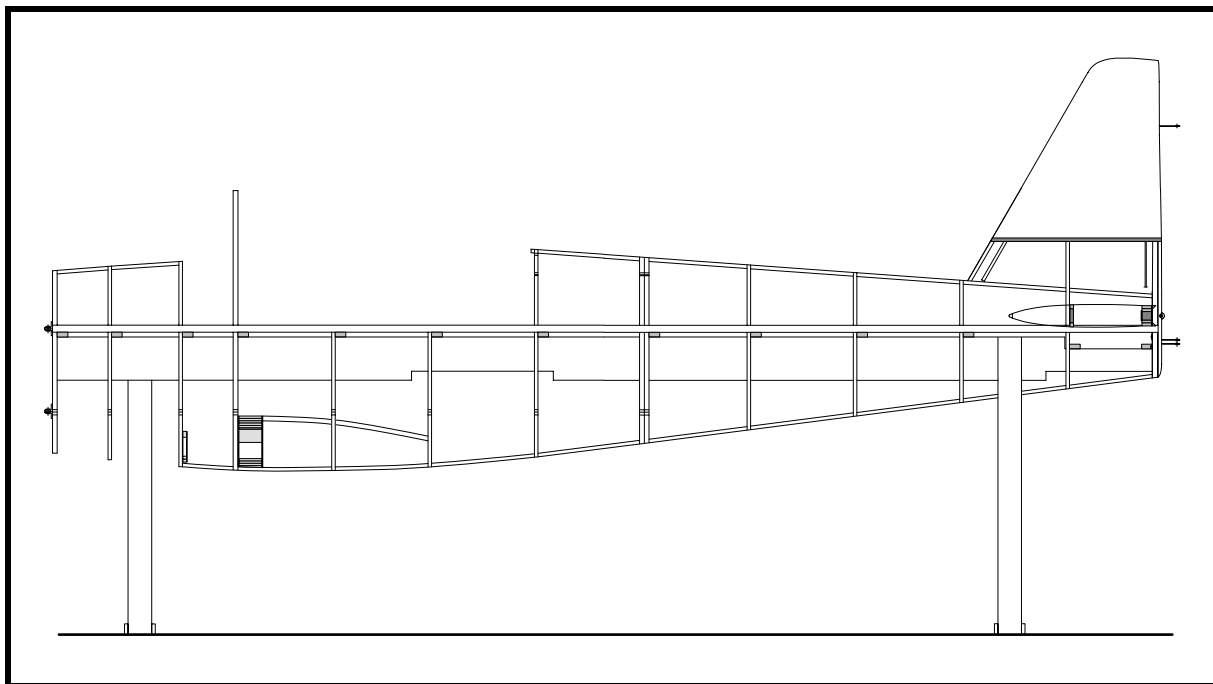

Figure 18
- ❑ Clamp the top aft longeron in position. See Figure 18. Until you are absolutely certain that everything is in the exact position, there is no need to do the final sanding for the longeron fit in the longeron cutouts.